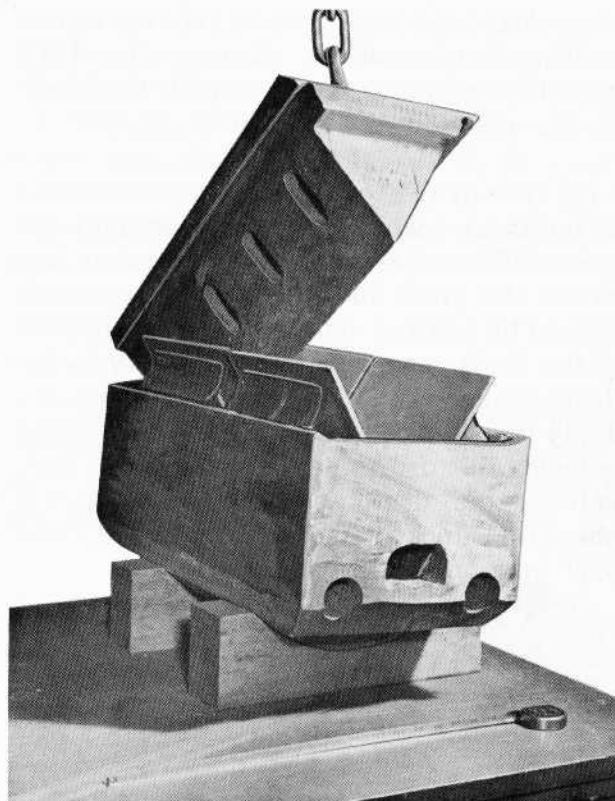

Fig. 5 - Assembly Of Draft Gear
1. As shown in Fig. 5, place the wedge block on the two cradle blocks, install the rubber pads and apply the pad wedge on top of the rubber units. Position the wedge so that it is centered in the block.